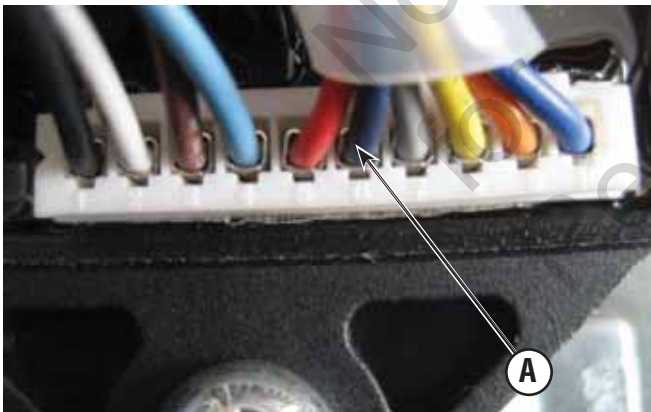

Figure 51
3. Check continuity between ground and the ignition winding (A, Figure 51).